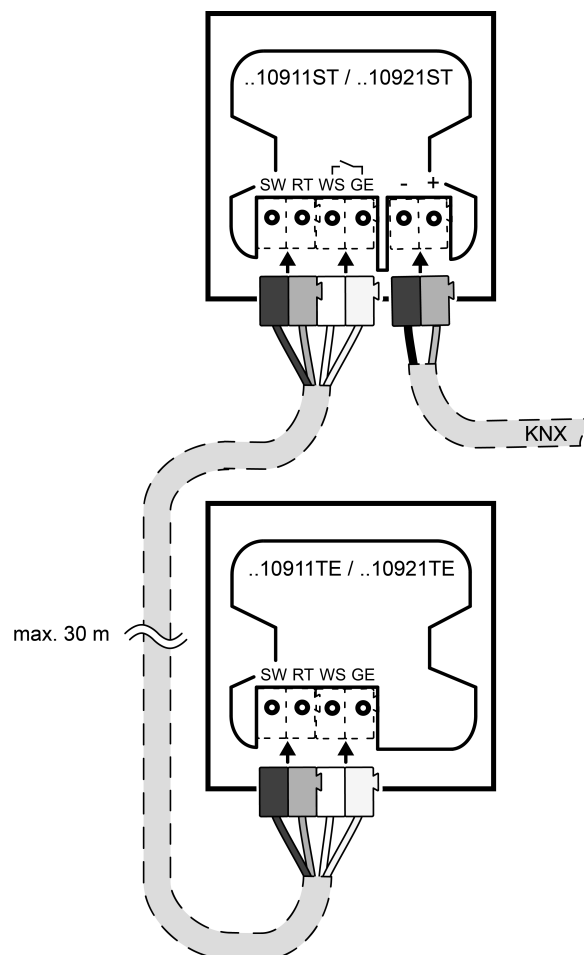

Figure 4: Connecting push-button extension
- Optional: Connect (see accessories) to connection terminal (Figure 4).
#### connecting (Figure 4)